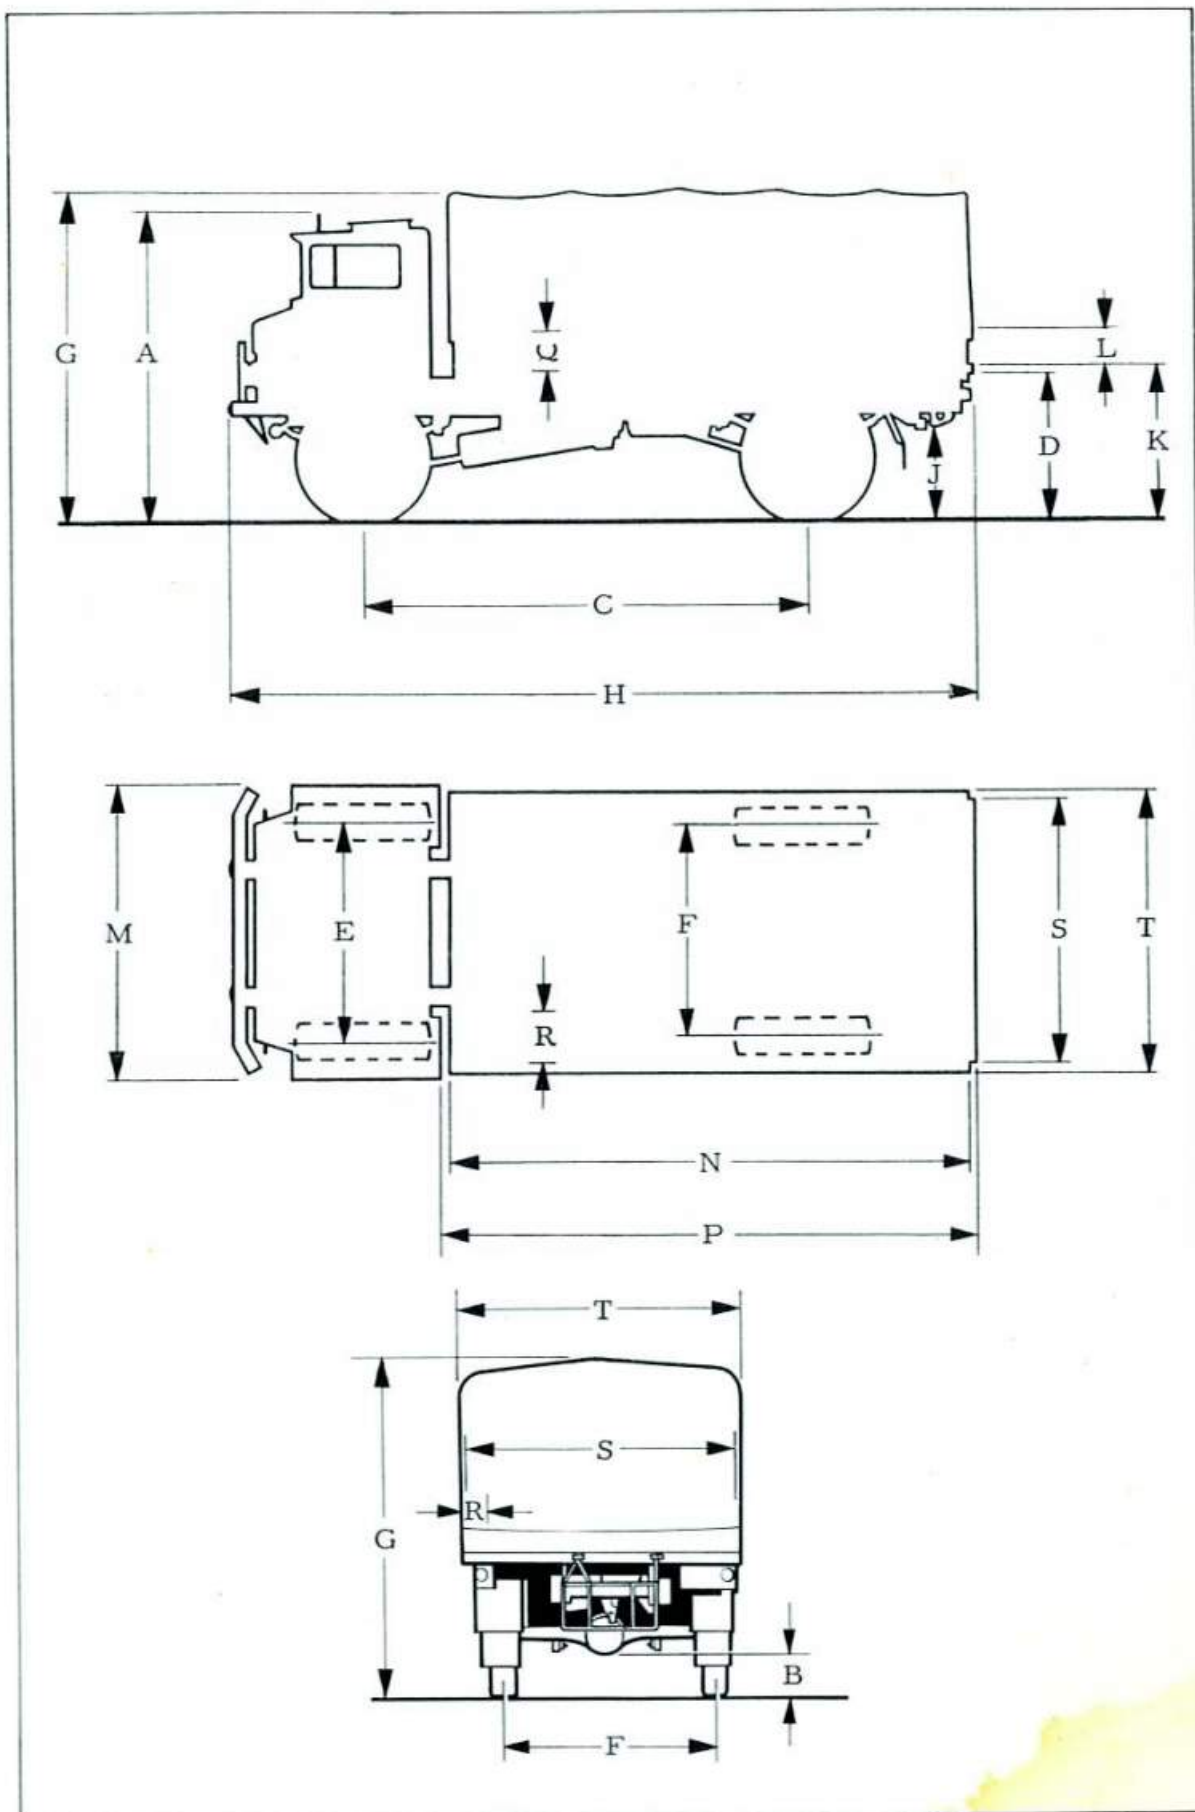

FIG 5
21. DIMENSIONS. The vehicle dimensions are detailed in Table 1. Letters referenced in the table are items of Fig 5.